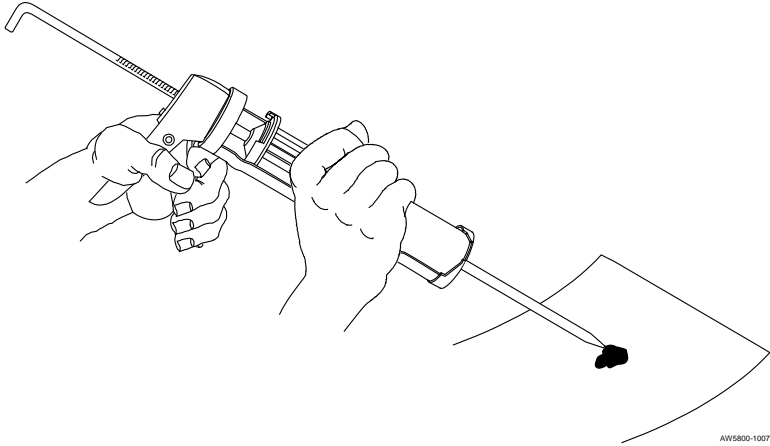

Figure 26. Clearing Duo-pak Adhesive
- C. Remove the cap from the cartridge. Press trigger and dispense and discard a small amount of adhesive to ensure both sides of the duo-pak glue cartridge are flowing freely and evenly. See Figure 26. Trim end of nozzle to allow better flow, if necessary.